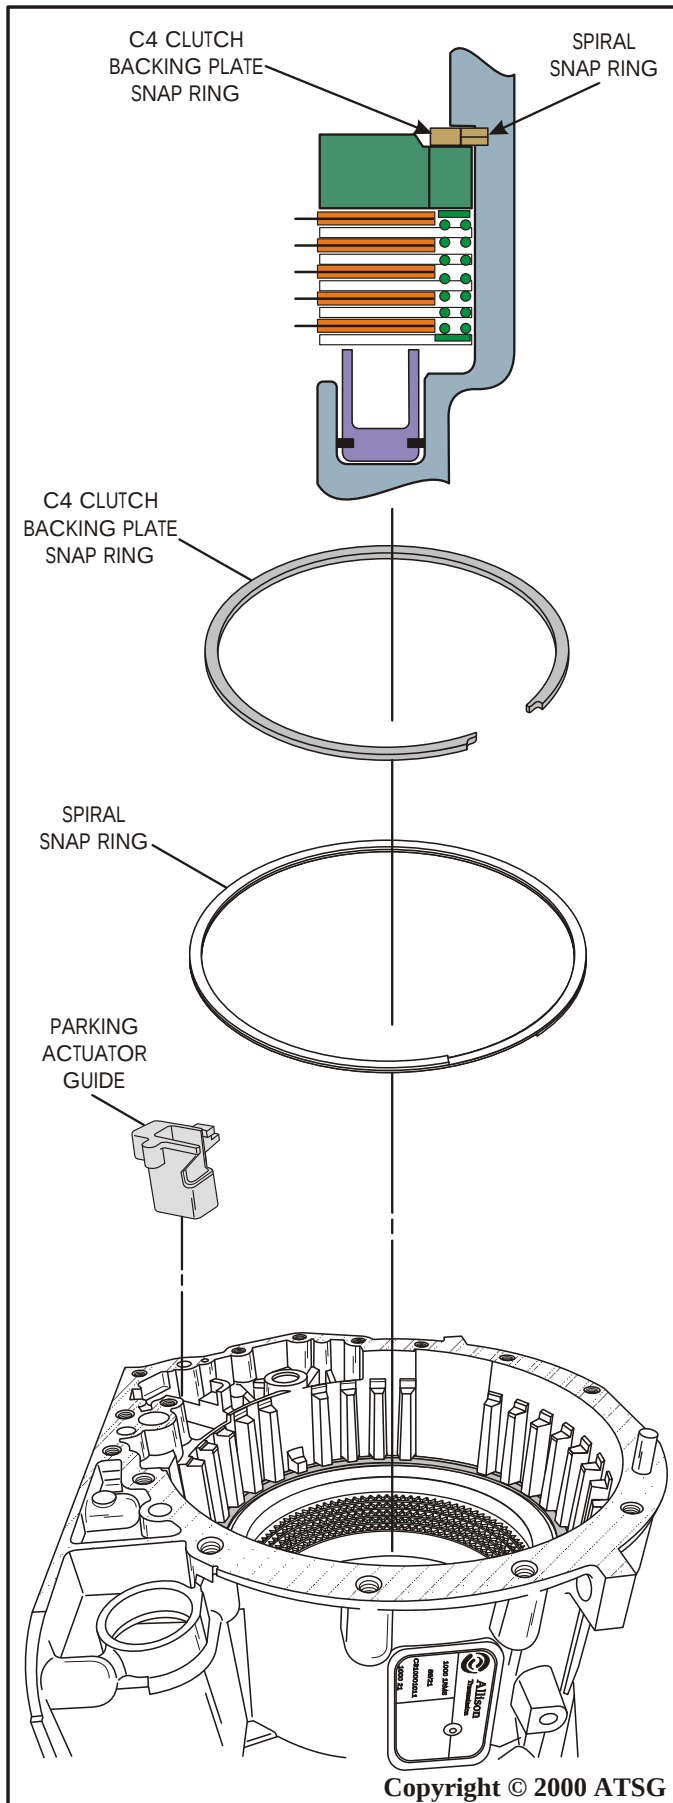

Figure 66
47. Remove the parking actuator guide from case as shown in Figure 66.
48. Remove the C4 clutch backing plate snap ring from the groove in case (See Figure 66).
49. From the **same** groove in the case, remove the spiral snap ring from case (See Figure 66).
Note: Refer to the cut-away in Figure 66 to see how these snap rings are in groove.